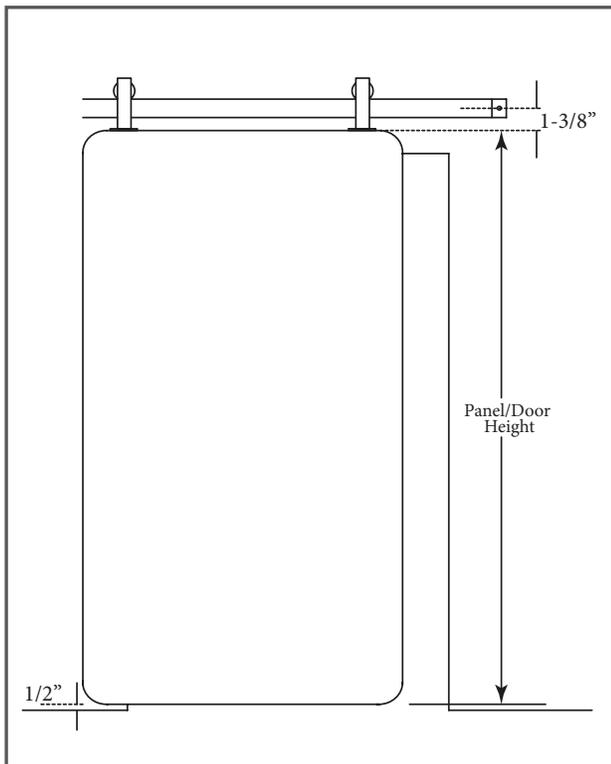

Figure 1
1. To determine where the track should be installed, first measure the height of the panel or door, then add 1-7/8" to the panel or door length. 1/2" will be for the clearance between the bottom edge of the panel or door and the sill or floor. 1-3/8" will be from the top edge of the window or door to the center of the track. (Figure 1).